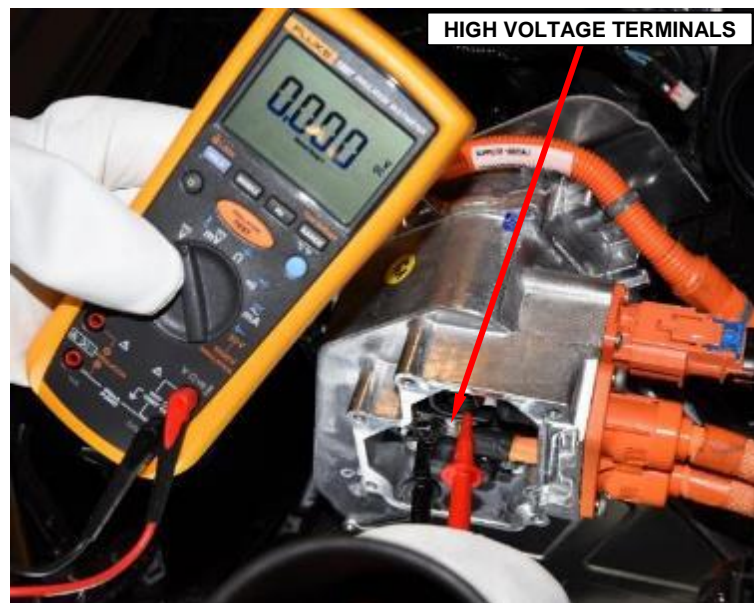

Figure 15 – Check PIM Voltage
23. Measure the voltage between the positive and negative high voltage terminals. Also, measure the voltage between each high voltage terminal and chassis ground (Figure 15). The measured voltage should be near 0-volts.